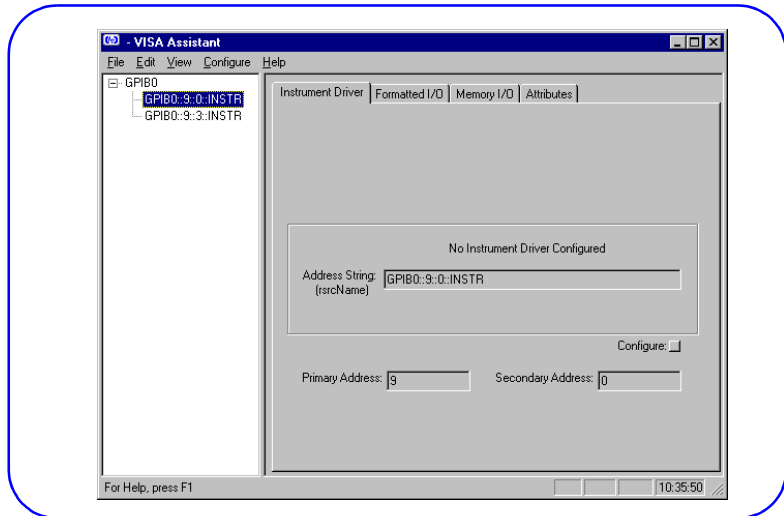

Figure 32. VISA Assistant Main Menu
- 2 To display the VISA Assistant Main Menu, click *Start/Programs/HP I/O Libraries/VISA Assistant* for a display similar to that in Figure 32. (For this example, we will assume only the HP E1406A Command Module and HP E1411B DVM are installed in the mainframe.)